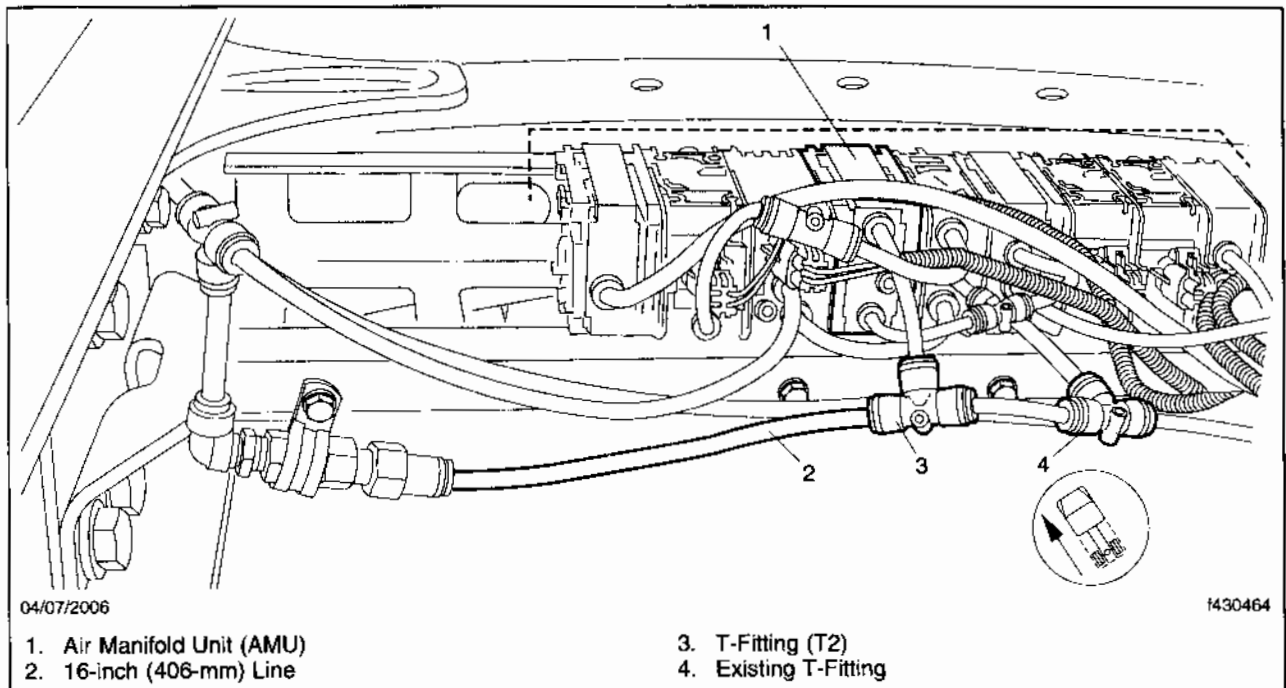

Fig. 2, AMU with Existing Line and T-Fittings
7. Cut the supply line that is routed between the *existing* T-fitting and the AMU approximately 3 inches from the *existing* T-fitting. See item 4 in **Fig. 2**.
9. Cut a 16-inch (406-mm) piece of line (supplied in the kit) and insert one end of the line into the second T-fitting (T2) and the other end into the check valve assembly. See item 2 in **Fig. 2**.